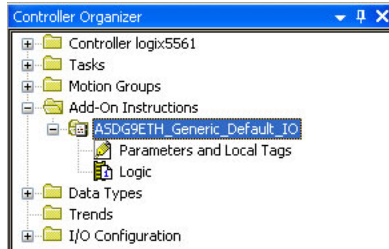

Figure 84: Generic Default I/O AOI
- 2) Right click on "Add-On Instructions" in the controller organizer view and select "Import Add-On Instruction". Browse and import the generic default I/O AOI. Refer to Figure 84.